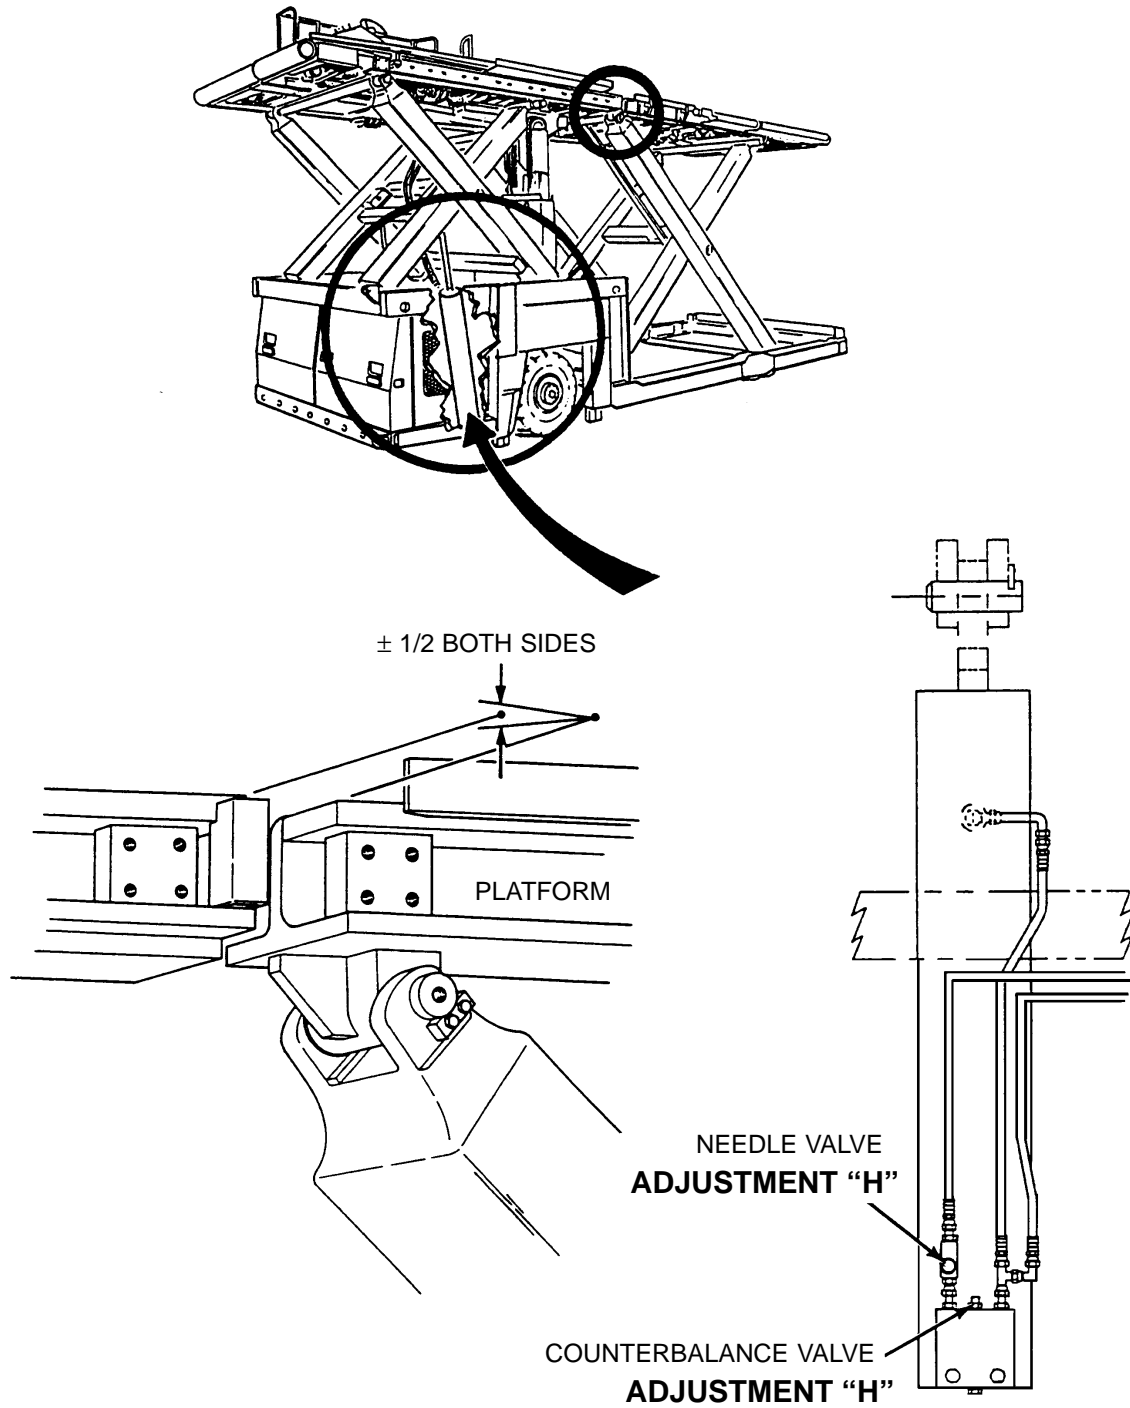

Figure 12
H. Bridge Needle and Counterbalance Valves (Figure 12)